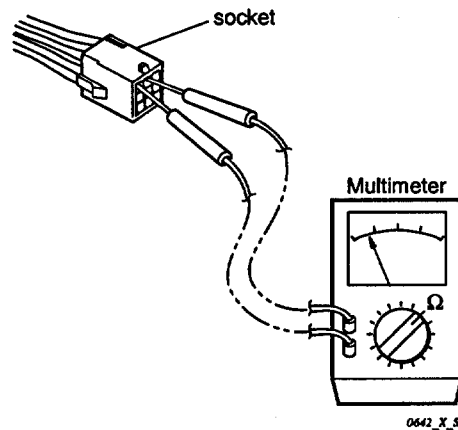

Fig. 10
- Then check continuity among plug's (and/or socket's) terminal as in Fig. 10.